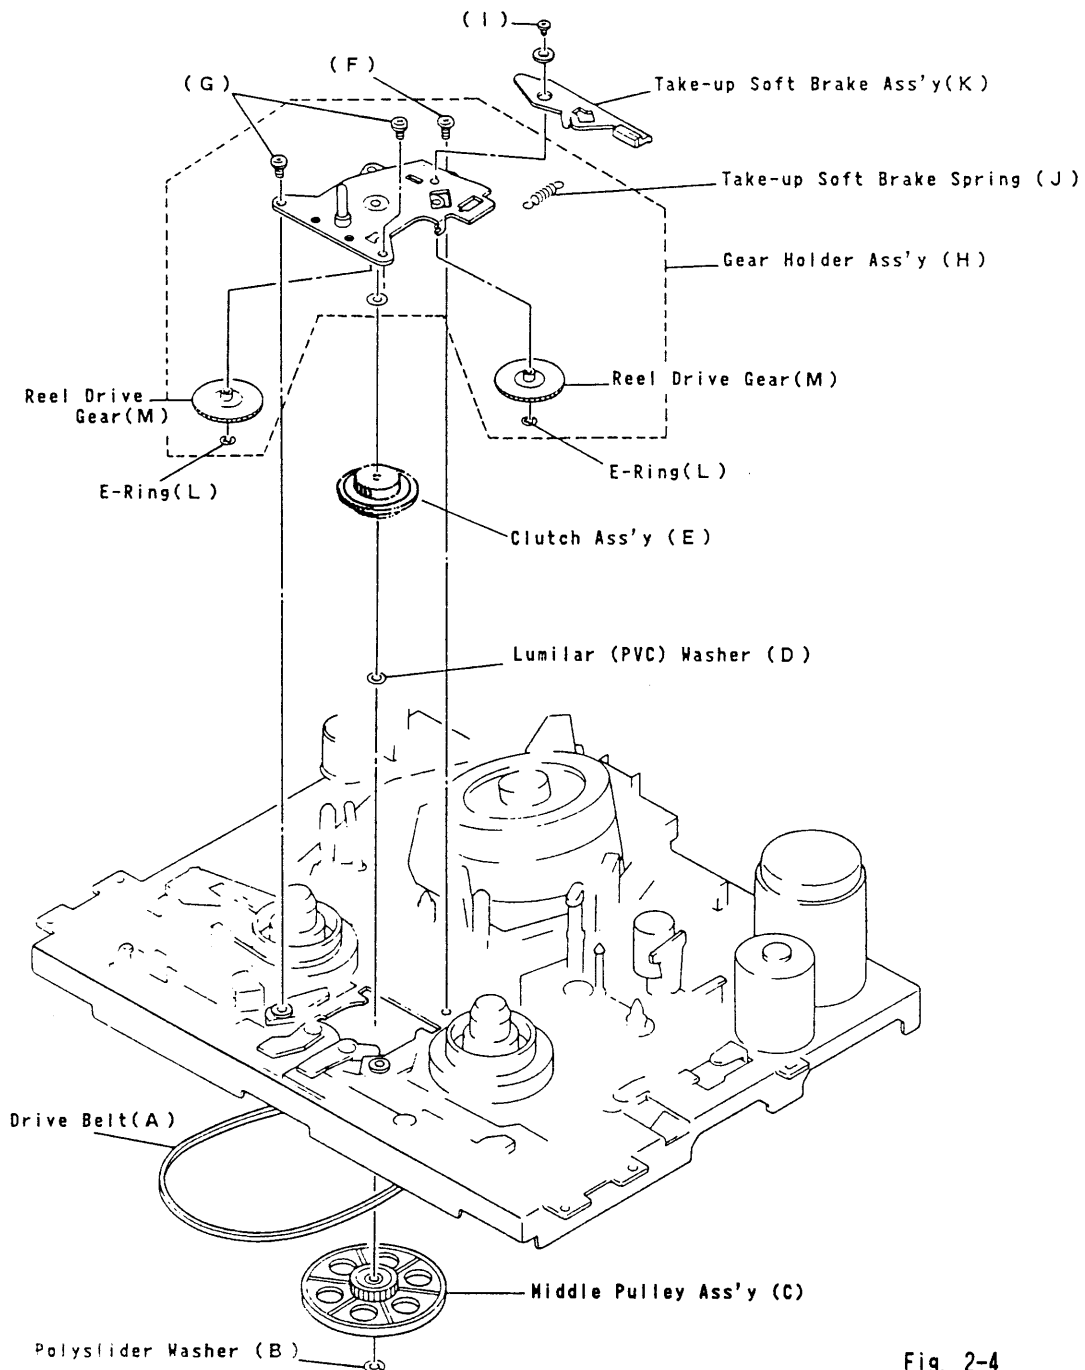

Fig. 2-4
(5) Gear Holder Ass'y (Fig. 2-4)